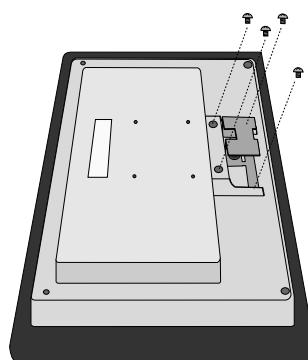

Figure R.2
4. Remove the 4 screws connecting the monitor to the stand and lift off the stand, assembly (**Figure R.2**).